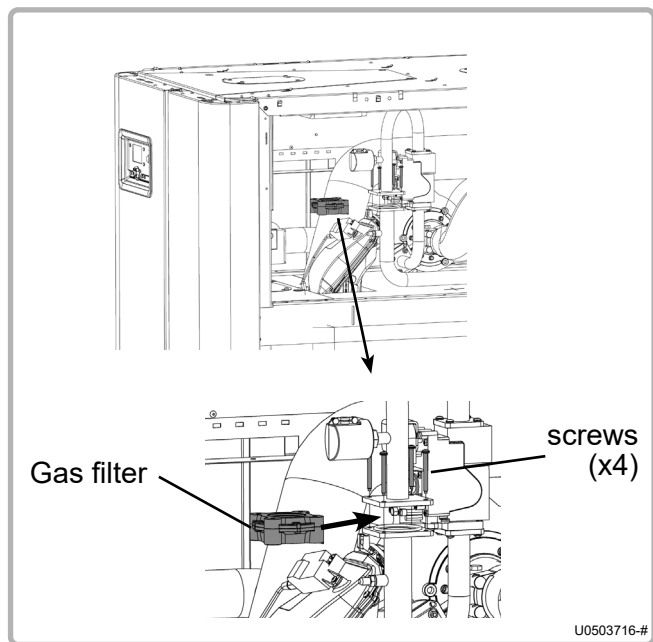

figure 46 - Gas filter on VARMAX 120 and 140
- Remove the seals from their groove and replace with new seals from the maintenance kit (see figure 46).